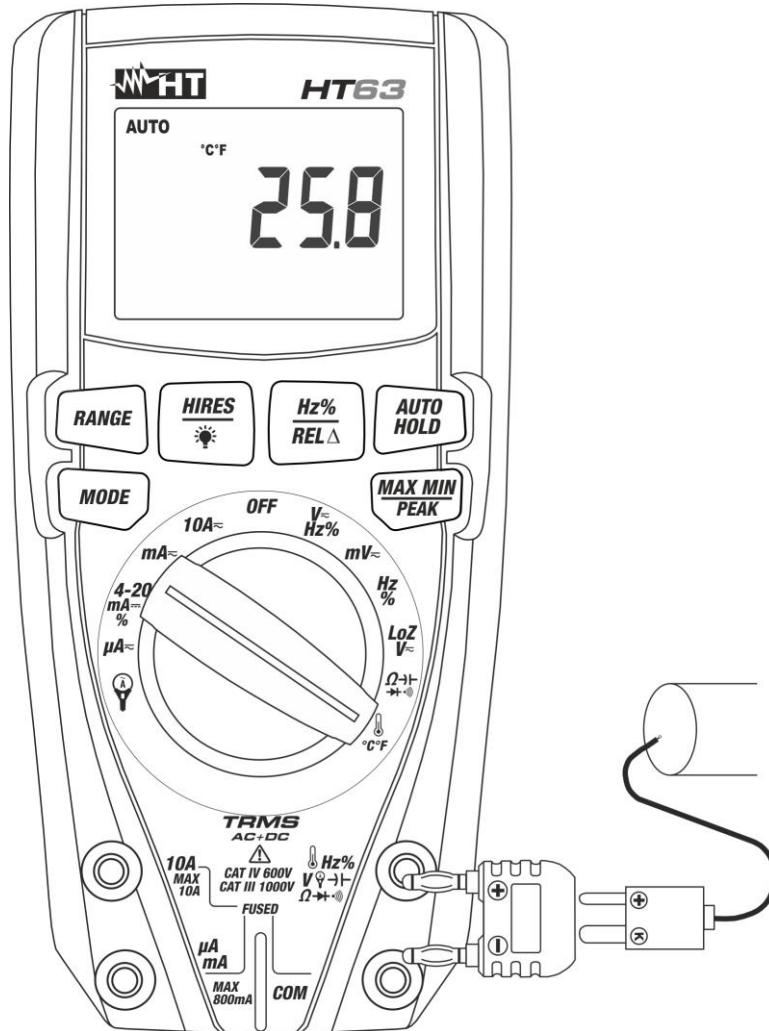

Fig. 9: Use of the instrument for Temperature measurement
3. Insert the provided adapter into input terminals Hz% V~ Ω Hz% V~ (polarity +) and **COM** (polarity -) (see Fig. 9)